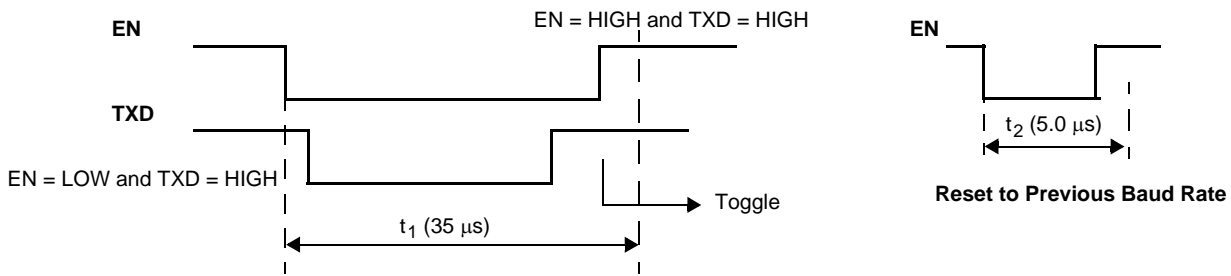

Figure 13. Fast Baud Rate Selection (Toggle Function)
- 15 See Figure 13, 11.
Fast mode can be selected from either Normal or Slow mode. Fast mode is entered via a special sequence (called toggle function) as follows: TXD and EN pins set LOW, then TXD pulled HIGH, and at the EN pin LOW-to-HIGH transition, the device enters into the Fast Baud Rate. The duration of this sequence must be less than 35  $\mu$ s. The toggle function is described in Figure 13, 11. Once in the Fast mode, two different procedures will bring the device back to the previously selected mode (Normal or Slow):
- A glitch on EN where  $t_2 < 5.0 \mu$ s also resets the device to the previously selected mode (Normal or Slow) (Figure 13).